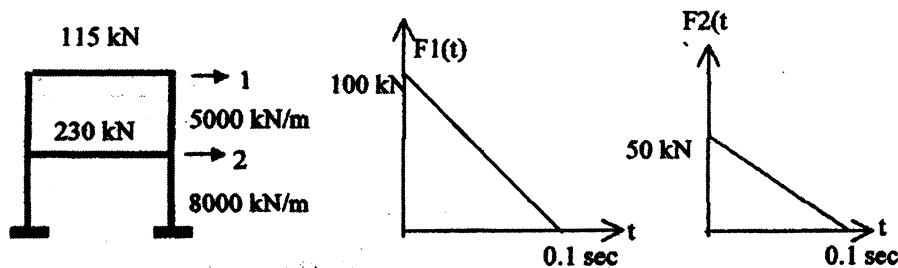

Figure 2
4. A concrete frame supports a rotating machine which exerts a horizontal force at the girder level,  $F(t) = 900 \sin 5.3t \text{ N}$ . Assuming 5% of critical damping, determine: (a) the steady-state amplitude of vibration and (b) the maximum dynamic stress in the columns. Assume that the girder is rigid. The frame is single bay, has a column size  $250 \text{ mm} \times 250 \text{ mm}$ ,  $E = 2.1 \times 10^7 \text{ kN/m}^2$  and a height  $3.0 \text{ m}$ . Weight of the structure  $67.5 \text{ kN}$  is lumped at its floor level. (16)
5. Estimate the maximum response of the frame shown in Figure 2 subjected to the loads shown. Neglect damping. (16)